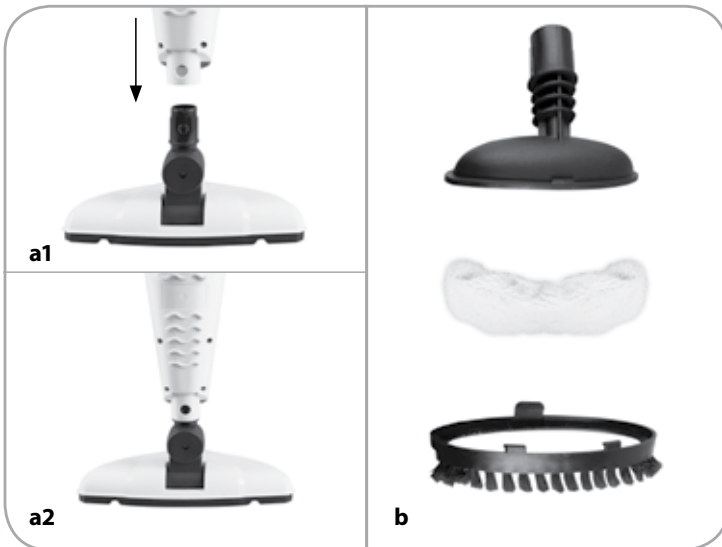

fig.2
- Heads (8) and (19), the wiper (22) and the adapter (13) should be mounted directly in to the socket (7) - **fig. 2**.